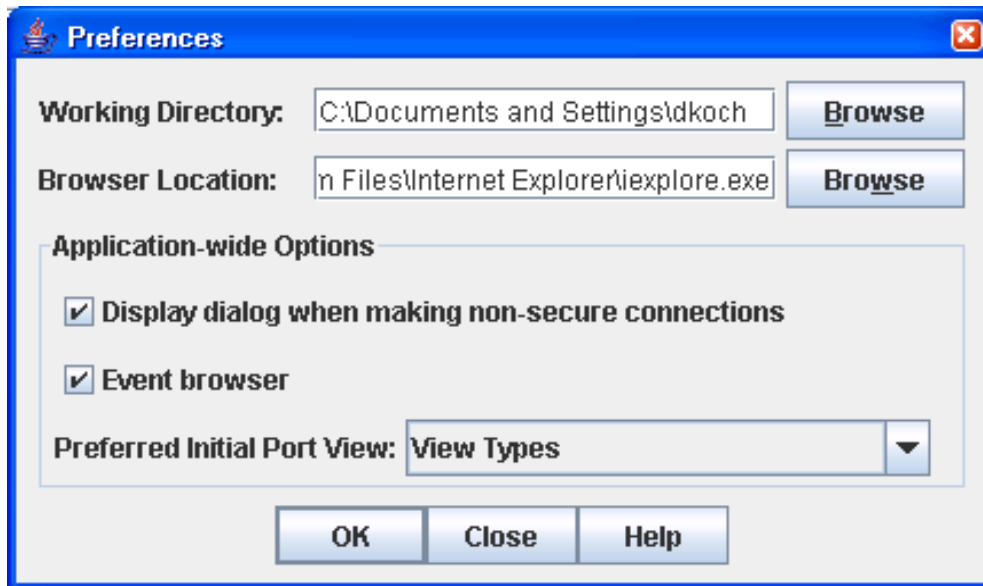

Figure 2 Preferences dialog
- Enable (default) or disable the Event Browser. See “Displaying the event browser” on page 31. If the Event Browser is enabled using the Preferences dialog as shown in Figure 2, the next time McDATA Web Server is started, all events will be displayed. If the Event Browser is disabled when McDATA Web Server is started and later enabled, only those events from the time the Event Browser was enabled and forward will be displayed.